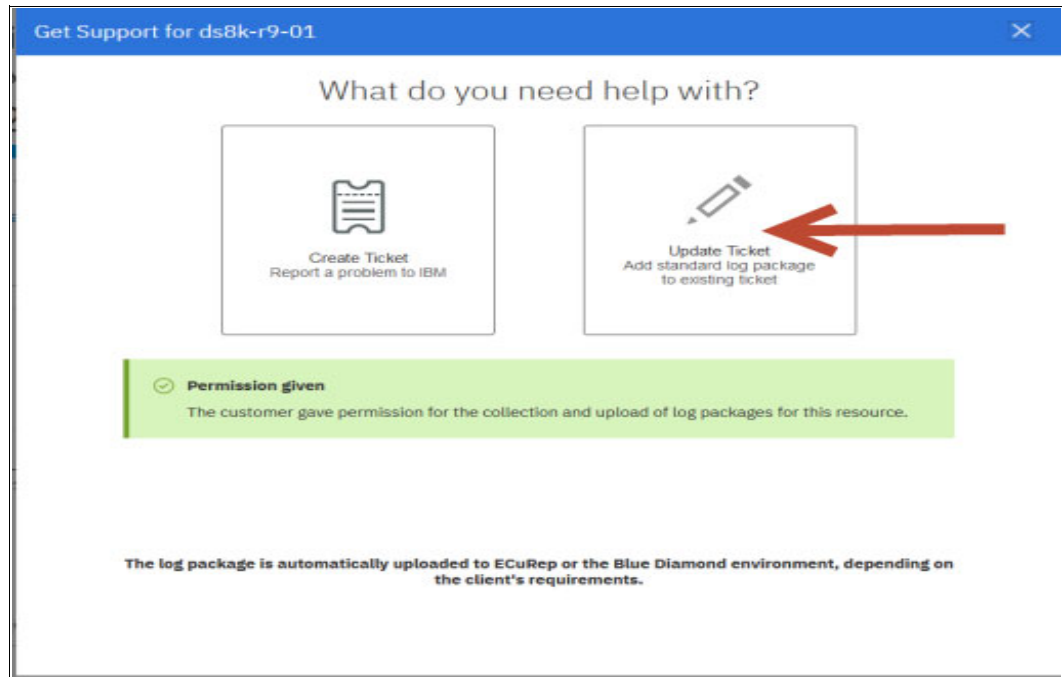

Figure 12-26 IBM Storage Insights: Update Ticket
2. In the window that is shown in Figure 12-26, click **Update Ticket**.